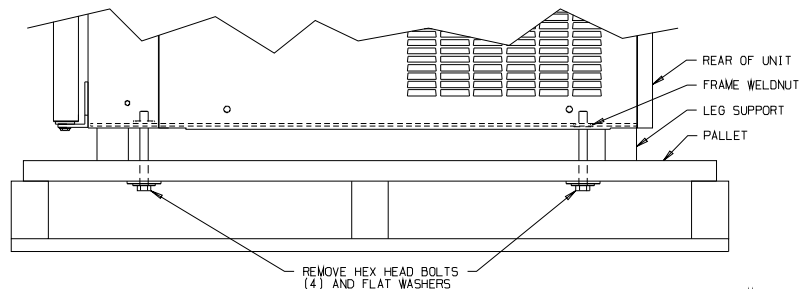
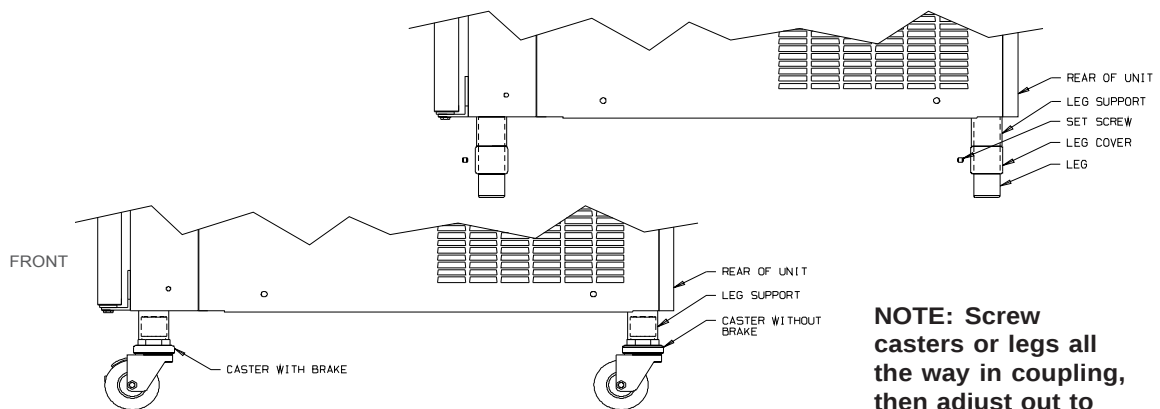

Figure 2-1 Freezer Bolted to Shipping Base
Figure 2-2 Installing Mounting Legs or Casters
2. Remove the shipping bolts on the bottom of the freezer (figure 2-1) and install either the legs or casters (figure 2-2).